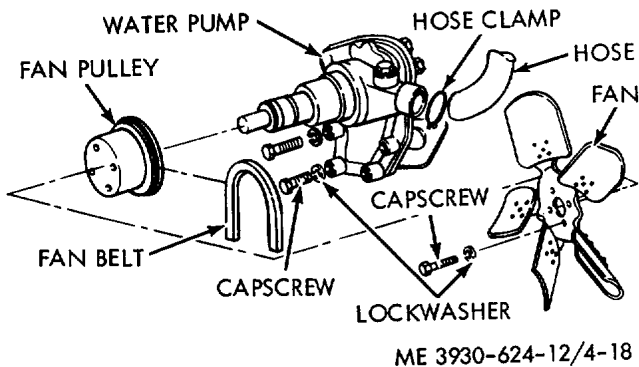

Figure 4-18. Water pump and fan blade.
(1) Raise the driver's seat and remove the side panels.
(2) Drain the radiator.
(3) Remove the radiator (para 4-28).
(4) Loosen the hose clamp and remove the coolant inlet hose from the pump (fig. 4-18).
(7) Loosen and remove the four capscrews and lockwashers securing the fan and pulley to the water pump hub. Remove the fan blade and pulley (fig. 4-18).